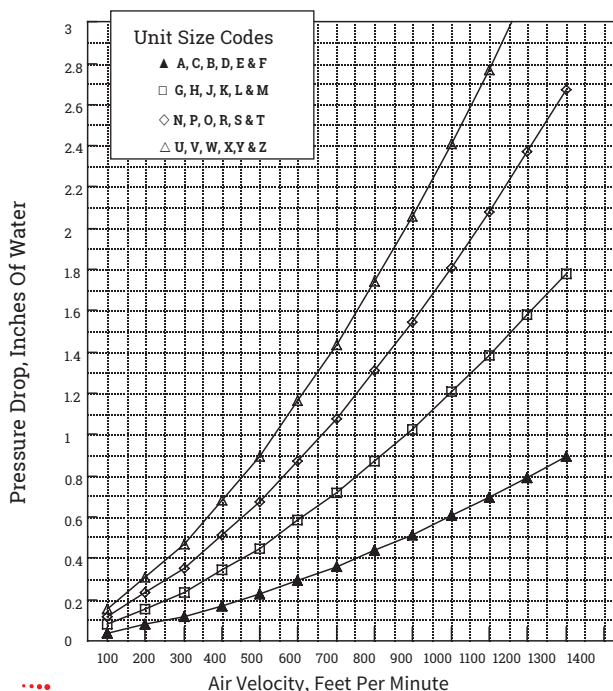

Figure 74.
**Pressure drop** through the heater can be determined by using Figure 74 for the ULTRA-SAFE™ duct heater.